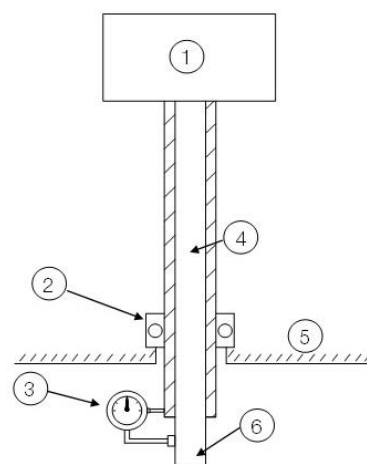

Figure 4.12: Alignment of motors with hollow shaft
1. Fix the dial gauge by its magnetic base to the pump shaft and align it with the base surface (motor shaft), setting the dial gauge to zero (Figure 4.12).
Figure 4.12 legend: